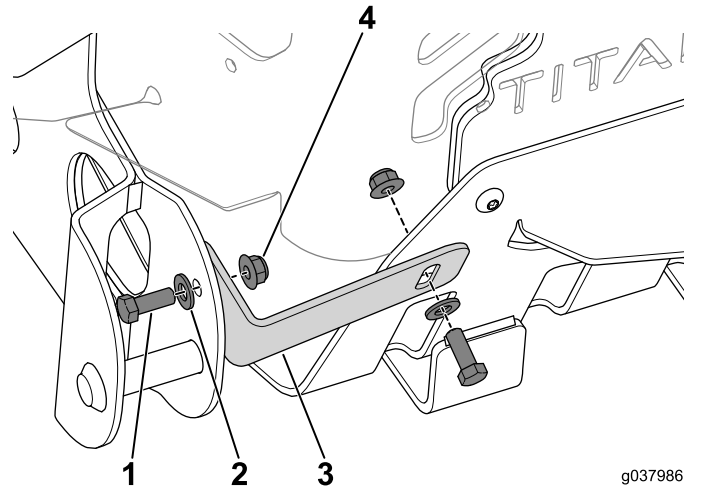

Figure 14
1. Use the 2 bolts (3/8 x 1 inch), 2 washers, and 2 nuts to secure the bagger bracket to the machine (Figure 14).